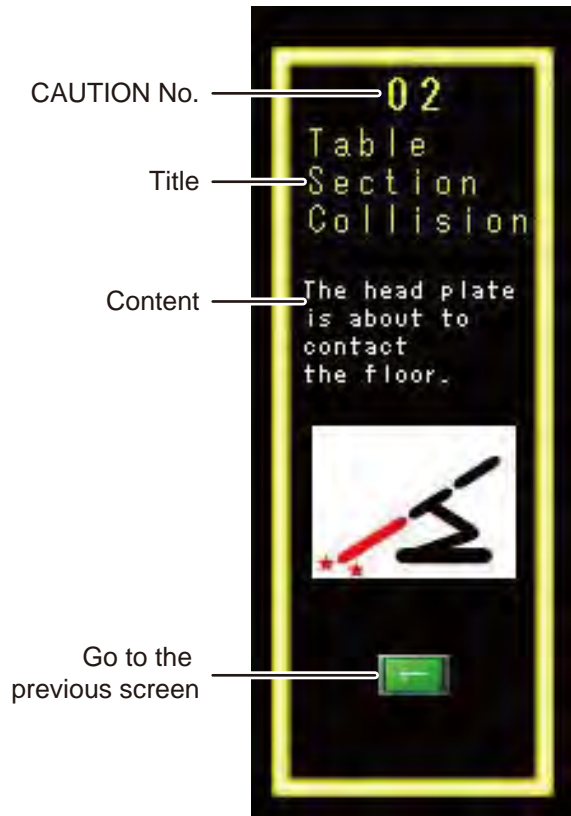
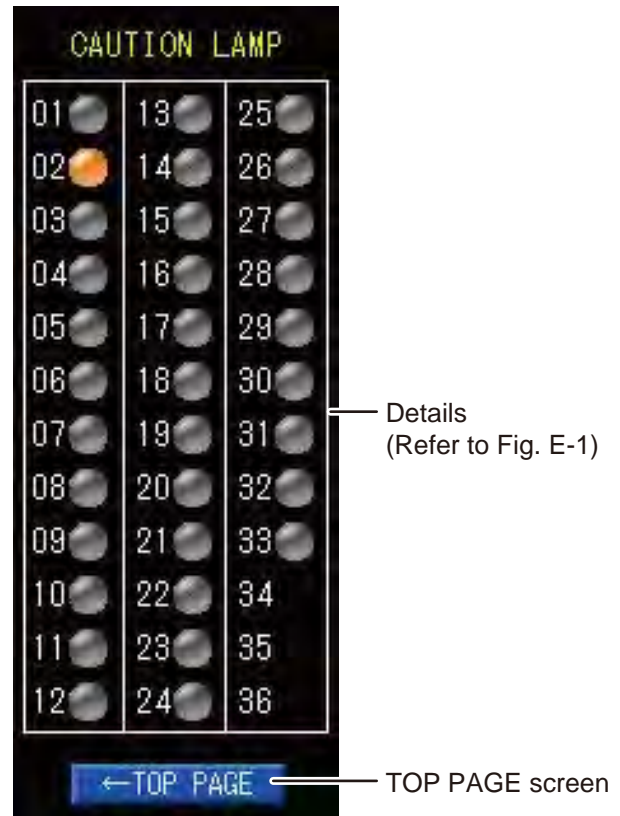

Fig. E-1
Fig. E-2
- To prevent damages, the operating table may stop during operation and a caution/warning screen such as in Fig. E-1 appears on the touch panel. For specific recovery procedures after the operating table stopped, refer to Page 85.
- Fig. E-2 appears, if you click CAUTION in Fig. A while any caution or warning has occurred. When one caution/ warning occurred, the screen of Fig.E-1 appears.